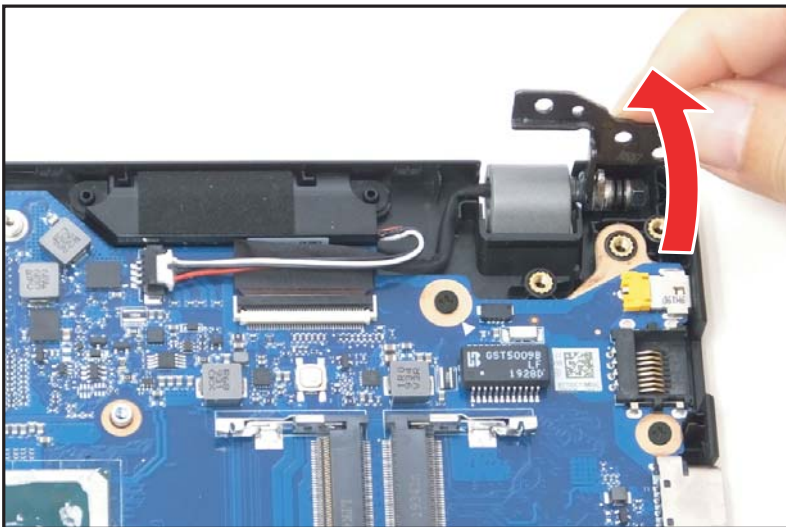

Figure 1-51. Mainboard Removal
3. Close the top assembly and lift the right side of LCD hinge until it is fully extended (Figure 1-51).